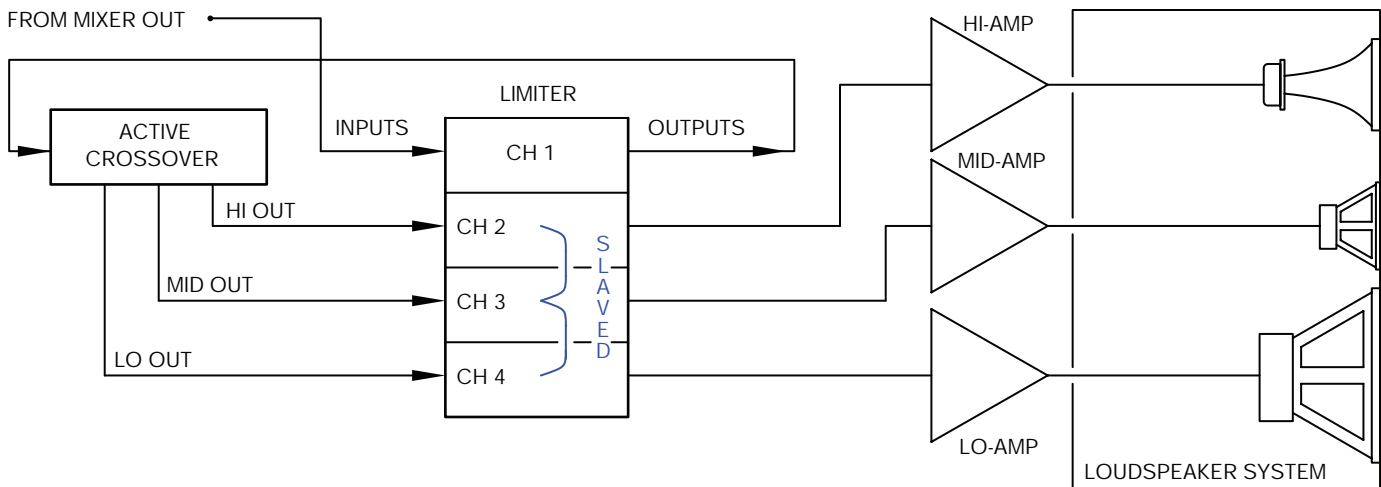

Figure 2. Active Tri-Amped System with Protection
*Multi-amped systems* often use limiters for speaker protection. Limiters are typically placed at the input of each power amplifier for each driver. In Figure 2 we show a tri-amped system protected by a limiter. Set each limiter's threshold to match the power handling of each driver. Whenever the high, mid or low limiters reach their set limit threshold, all three bands limit by the same amount. This is due to the three slaved channels in the limiter, assuring the system's spectral balance stays constant. (If only one band limited and the other two increased in volume, the result would be an abrupt change in the tonal balance of the system.) This clever trick provides the least audible and most effective form of multi-amped system power limiting.